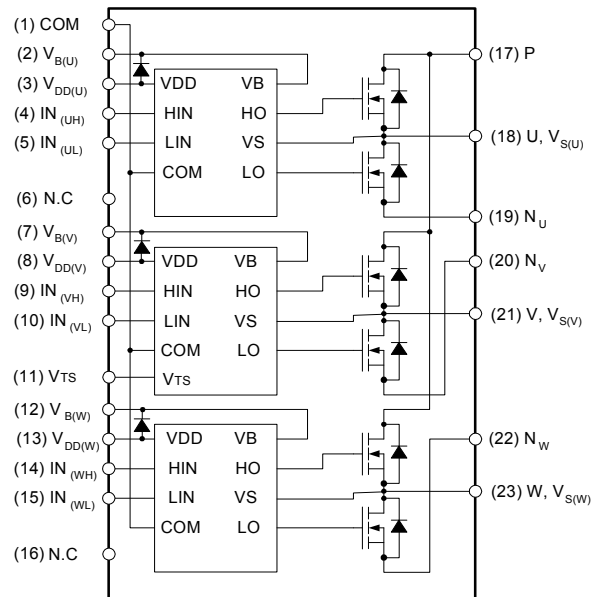

Figure 2. Pin Configuration and Internal Block Diagram (Bottom View)
- Built-in bootstrap diode includes around 15 Ω resistance characteristic. Please refer to Figure 2.